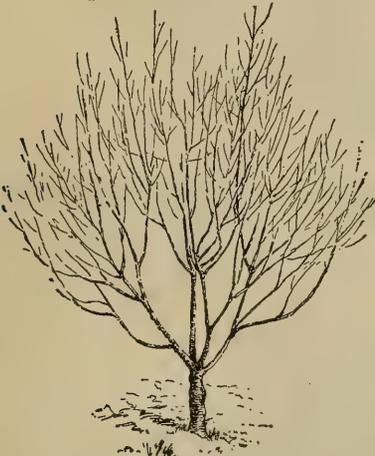

Fig. 101, Shows a peach tree two years old before pruning.
8. Study how Fig. 101 was properly pruned and headed-back.